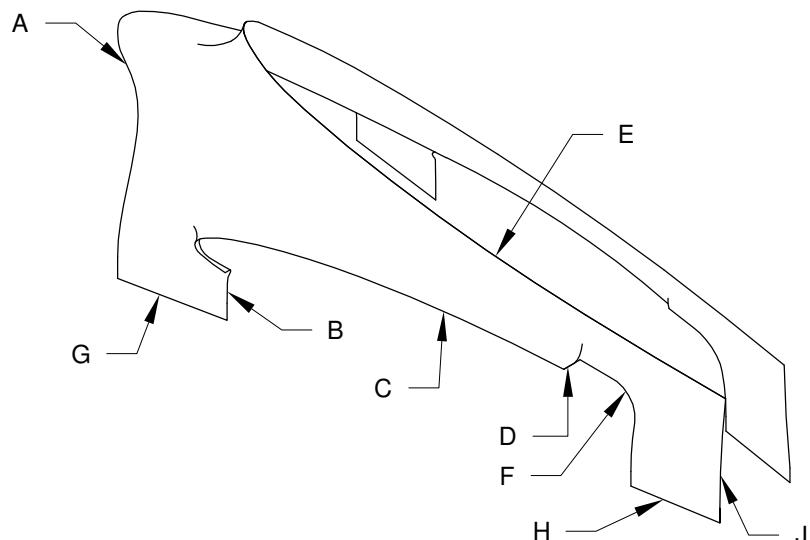

FIGURE 1: EMPENNAGE FAIRING TRIM
Step 2: Trim the F-1094B Empennage Fairing, edge A as shown in Figure 1 to meet the scribe line in the part for this edge.
Step 4: Mark the F-1094B Empennage Fairing for trimming. See Figure 1 for edge callouts. Mark edge B flush with the front edge of the F-1094A Empennage Gap Cover. Edge C is indicated by a scribe line, check that this line will provide enough screw hole edge distance and remark the line if necessary. Edge C is parallel to the inboard edge of the HS-1001 Horizontal Stabilizer Skin but different widths at the forward and aft edges. Mark edge D flush with the aft top edge of the horizontal stabilizer skin. Edge E is indicated by a scribe line, check that this line will provide enough edge distance and remark the line if necessary. Edge E should parallel the aft lower edge of the VS-1001 Vertical Stabilizer Skin and then curve upwards towards leading edge of the vertical stabilizer assembly. Mark edge F as shown in Figure 3 to provide a minimum 1/4 clearance between edge F and the WD-605L/R Elevator Horns with the elevator assembly rotated through its full range of motion. Mark edges G and H even and parallel with the lower edge of the F-1075 Tailcone Aft Top Skin and empennage gap cover. See Figure 3. Mark edge J even with the aft edge of the F-1073 Side Skins and vertical stabilizer skin.